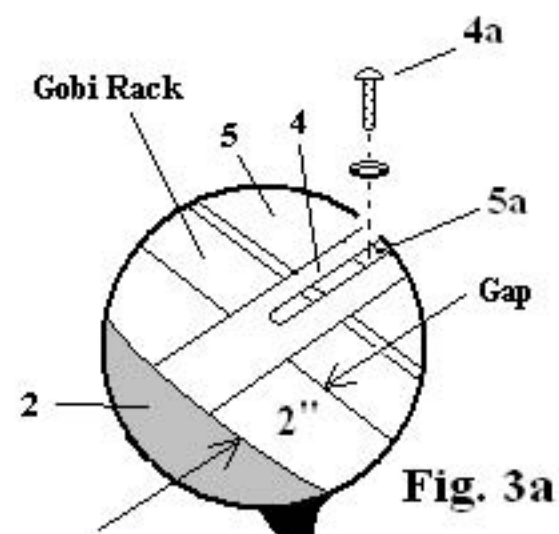

Fig. 3a
- 9- Refer to page 3 Fig. 1 place wind deflector (2) with attached support brackets (4) onto roof rack light bar (5). Align the center two wind deflector brackets (4) first onto the center two slots (5a) of roof rack light bar (5). Located in Bag # 2 of your hardware kit use 2 - ¼-20 x 1" stainless steel button head screws, black nylon washer and bright zinc nylock nuts (4a) as shown on page 4 Fig. 3a to secure brackets in place. One screw per bracket with a gap of approximately 2 inches between the wind deflector and the roof rack. Follow by securing the two end wind deflector brackets (4) onto light bar end slots (5a) as shown on page 3 Fig. 1. You will have to pull the wind deflector ends towards the roof rack to secure the wind deflector support brackets to the roof rack light bar forming a curve in the wind deflector. Use the supplied button head screws, black nylon washers and nylock nuts (4a) supplied in your hardware kit to secure in place. Provide a small gap of about ¼" between the ends of the wind deflector and the roof rack to prevent contact. Make certain after the wind deflector has been installed that the rubber seal at the bottom of the wind deflector makes full contact with the vehicle roof top. If gaps appear loosen the button head screws on the front of the wind deflector and drop the wind deflector until the rubber seal makes full contact then retighten. A picture of a fully installed wind deflector is located on page 7. Installation complete.